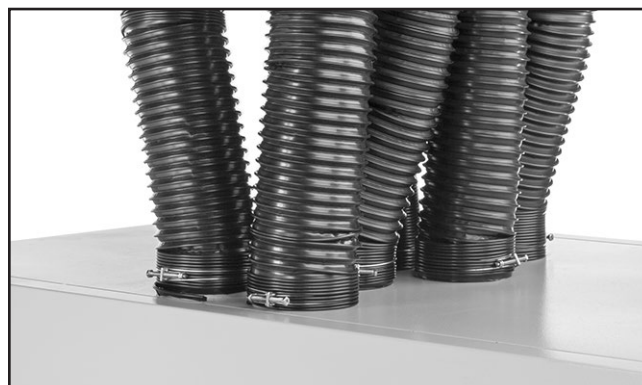

Figure 12. Example of hoses attached to ports.
1. Using 5" hose clamps, secure hoses from dust collection system to dust ports (see **Figure 12**).